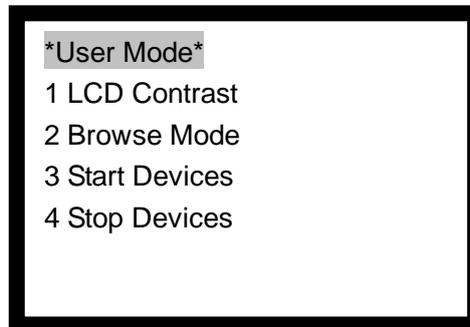
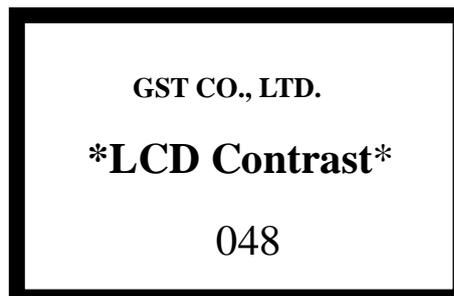
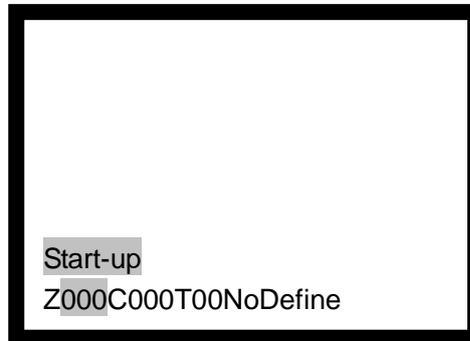
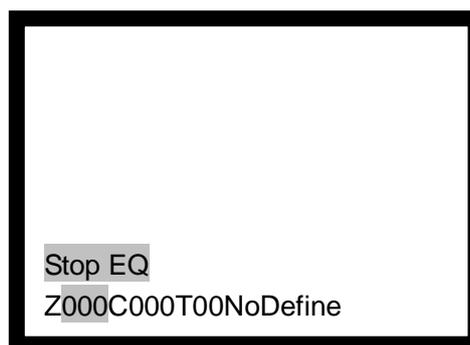

Fig. 6-12
Fig. 6-13
Fig. 6-15
Fig. 6-16
Pressing *MODE* key can enter user mode setup screen as shown in Fig. 6-12.
- ✧ Entering 1 in Fig. 6-12 will enter the screen for setting up LCD contrast, as shown in Fig. 6-13. In this screen, “ \triangle ” and “ ∇ ” are used to adjust LCD contrast.
- ✧ Entering 2 in the screen of Fig. 6-12 will enter the screen for setting up display mode, as shown in Fig. 6-14. In this screen, choosing “1 Zone Mode” can browse system messages by zone, and choosing “2 Loop Mode” can browse by loop.
- ✧ Entering 3 in the screen of Fig. 6-12 will enter the screen for manual start of system devices, as shown in Fig. 6-15. The FACP provides two modes, starting a single device and starting multiple devices. The method of operation and the use of “*” is the same as disablement operation.
- ✧ Entering 4 in the screen of Fig. 6-12 will enter the screen for manual stop of loop devices, as shown in Fig. 6-16. The method for stopping a device is the same as starting a device.